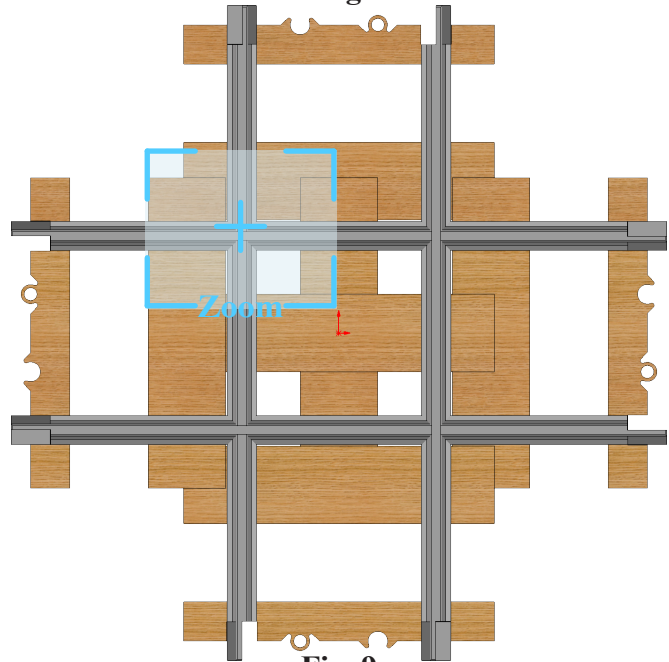

Fig. 9
Step 3. Zoom in top left intersection of Rails, **Fig. 9**.